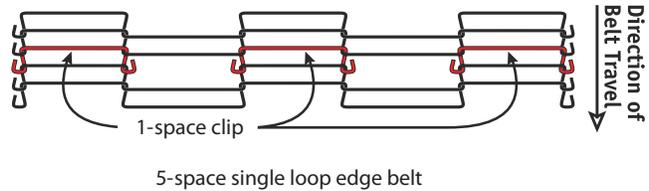

Figure 6
1. Use needle nose pliers to grip the splice clip, and hook the two ends around the Z-bends on either side of the center space (see Figure 6)